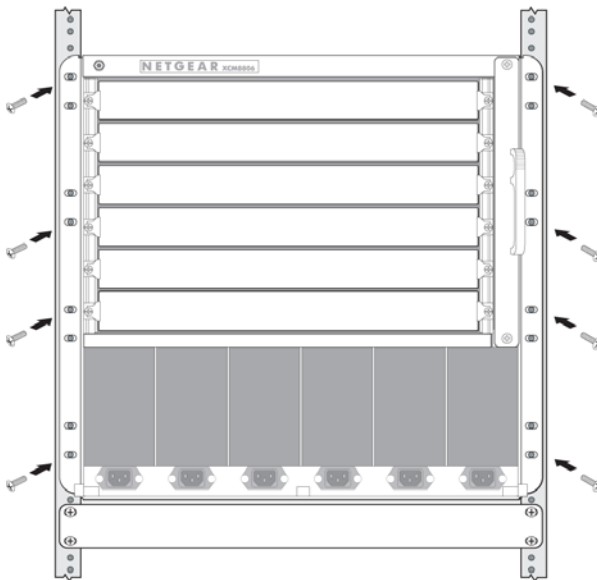
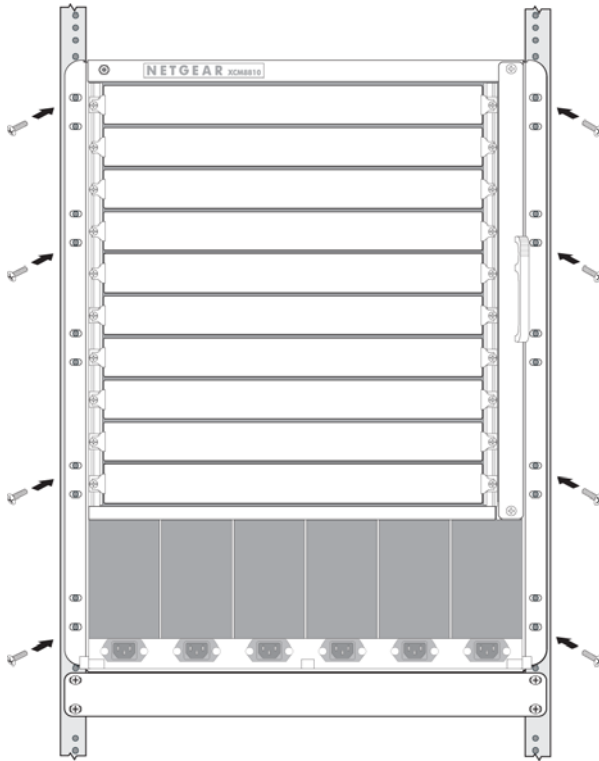

Figure 26. Securing the XCM8806 Chassis to a rack
Figure 27. Securing the XCM8810 Chassis to a rack
6. Secure the chassis to the rack using eight rack mounting screws. (Screws are not provided.) Be sure that the screws are secure. Refer to Figure 26 and Figure 27 for the screw locations.
Note: Figure 26 and Figure 27 show a standard rack mount. For mid-mount installation, use the same mounting locations shown in the figure, but insert the screws through the designated slot locations of the mid-mount brackets.